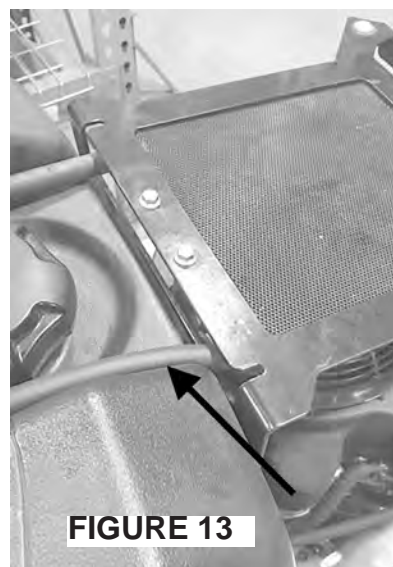

**FIGURE 11**
14. Cut the hose from the reservoir to the steel tube on the right side to about 3" remains on the reservoir. Remove the remainder of the hose from the formed tube. Take the clamp from the tube end and install it onto the 3" section of hose. Put the supplied plug **6** in the hose and slide the clamp over it to secure it. **Figure 11**